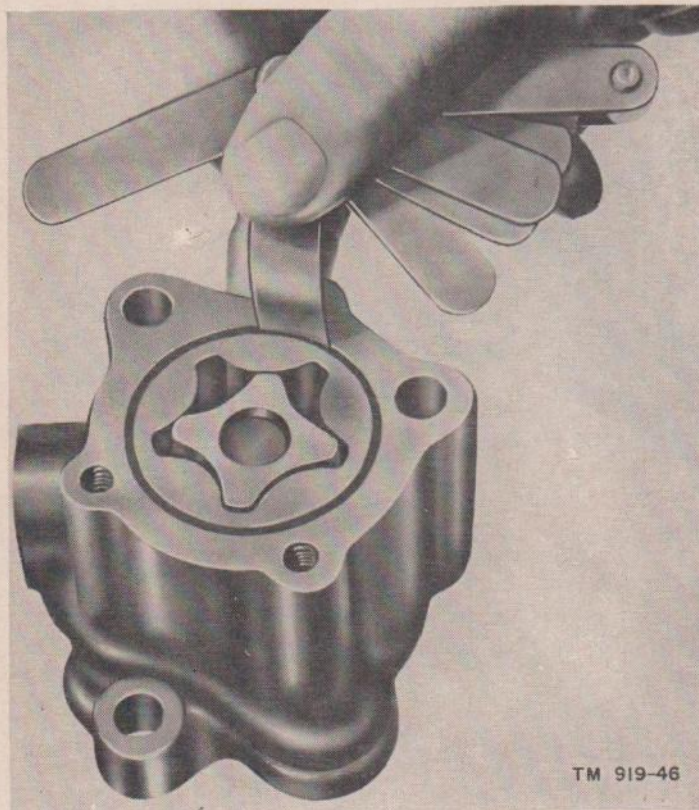

Figure 47. Checking clearance between outer rotor and oil pump body.
- (4) Measure the clearance between the outer rotor and the pump body as shown in figure 47. If the clearance exceeds .012 inch, the pump body is faulty and should be replaced.